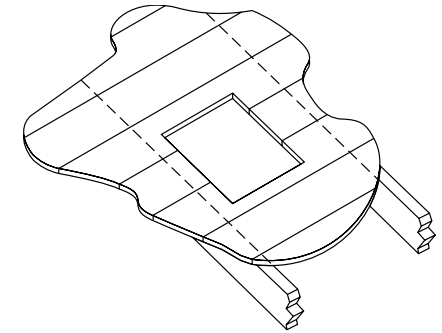

Figure 19
5. Remove shingles or other roof covering as necessary to cut the rectangular hole for the Support Box. Cut the hole 1/8-inch larger than the dimensions of the Support Box. (Figure 19). The rectangular hole should be centered on the small hole which you drilled through the ceiling to mark the location. Again, verify that you are not cutting through rafters or framing members.